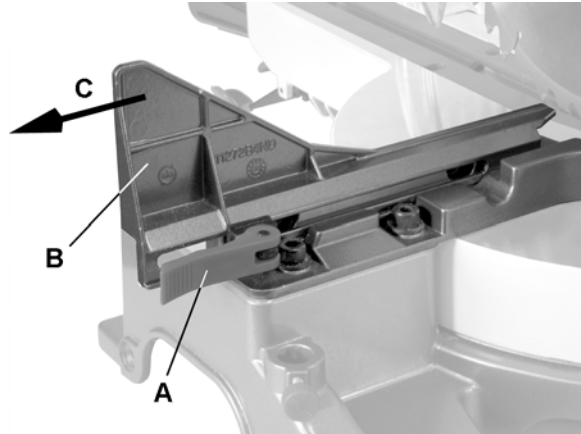

Figure 23
To adjust the sliding fence (refer to Figure 23):
1. Unlock the *fence cam locking lever* (A) (shown locked in Figure 23) by pushing it toward the rear of the machine.
2. Extend the *fence* (B) by sliding it out (C) to ensure that the blade will clear the fence for degree of the bevel cut selected. Lock the *fence cam locking lever* (A) as shown.